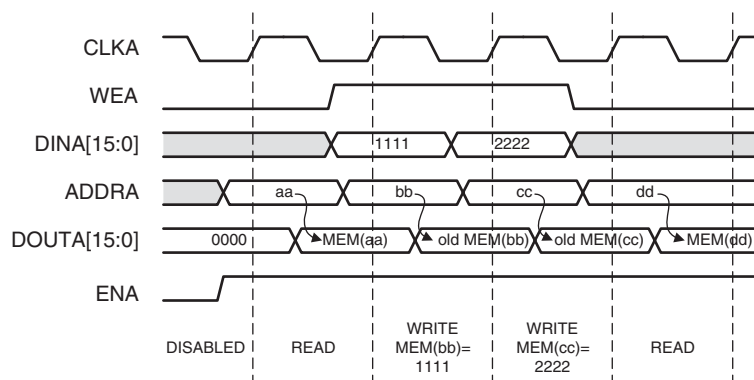

Figure 10: Read First Mode Example
- **Read First Mode:** In READ_FIRST mode, data previously stored at the write address appears on the data output, while the input data is being stored in memory. This read-before-write behavior is illustrated in Figure 10.